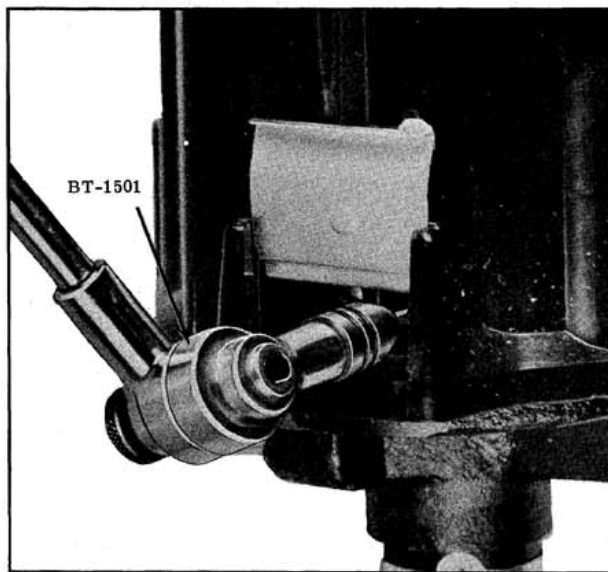

Fig. 5-2 Adjusting Dwell Angle
2. With engine running at idle speed, insert Dwell Adjusting Tool J-6296 or BT-1501 through distributor window into the head of the adjusting screw. (Fig. 5-2) Adjust dwell angle to 30°.